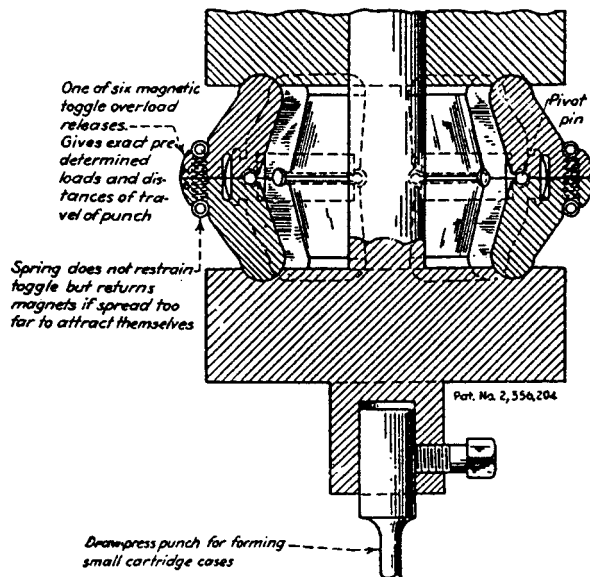

Fig. 11 A pressure release.
Fig. 11 Annular air gaps are useful in instruments and loudspeakers. The magnets can be (A) plug, (B) cylindrical, or (C) ring-type, depending upon the application.
**Fig. 11** An automatic gas-range control has a sealed thermostatic element consisting of a bulb, capillary tube, and bellows. As food is often placed near the bulb, a nontoxic liquid, chlorinated diphenyl, is in the liquid expansion system. The liquid is also non-flammable and has no corrosive effect on the phosphor-bronze bellows. By placing the liquid outside instead of inside the bellows, the working stresses are maximum at normal temperatures when the bellows bottoms on the cup. At elevated working temperatures, the expansion of the liquid compresses the bellows against the action of the extended spring. This, in turn, is adjusted by the knob. Changes in calibration caused by variations in ambient temperature are compensated by making the rocker arm of a bimetal suitable for high-temperature service.